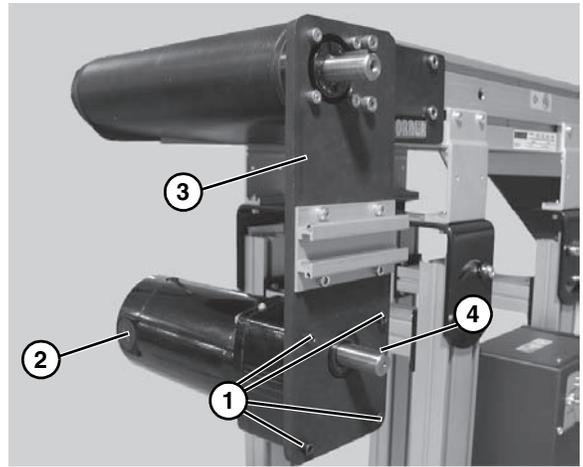

Figure 15
5. Remove four (4) screws (**Figure 15, item 1**). Detach motor (**Figure 15, item 2**) from the mounting plate (**Figure 15, item 3**). Retain motor output shaft key (**Figure 15, item 4**).
6. Install new motor using the four (4) mounting screws (**Figure 15, item 1**).